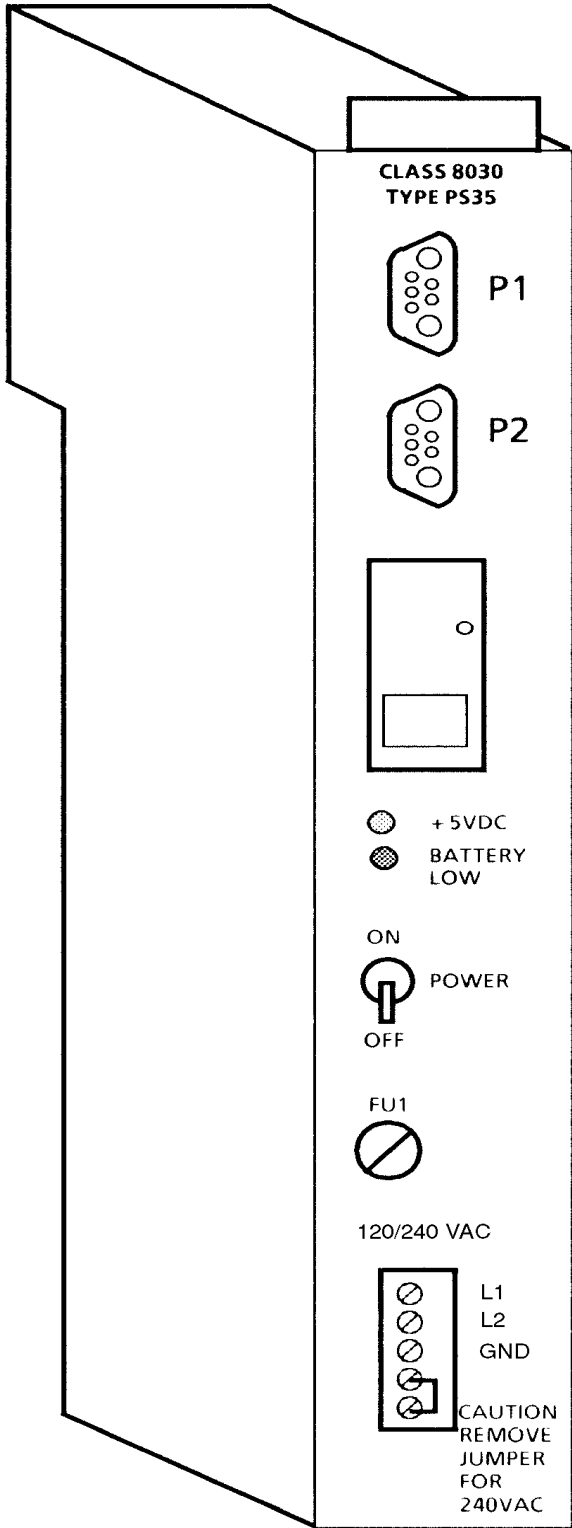

Figure 4-1 Front Panel of PS35
Both the PS25 and PS35 power supplies have two indicator lights for diagnostic purposes. These lights are the BATTERY LOW and the +5VDC LEDs (Figure 4-1).
3. Using a small blade screwdriver, loosen the captive screw securing the battery door and open the door to gain access to the battery. (Refer to Figure 4-1 on page 4-1.)
The fuse holder is located on the front of the module (see Figure 4-1 on page 4-1). To see if there is a blown fuse, use the following procedure: